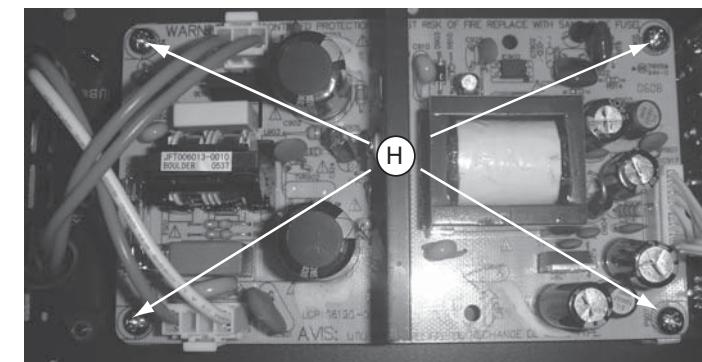

Figure 8
- 3) Loosen 4 screws " H " on the top of power board to dismantling the power board as shown in figure 8.